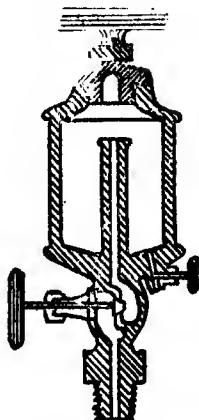

FIG. 49.—WATER DISPLACEMENT LUBRICATOR.
**Displacement Lubricators.**—The lubricators used on traction engines are manufactured in a number of different styles and of two distinct types. The types are known as the water displacement and the hydrostatic lubricators. The inside construction of one of the former is shown in Fig. 49. It will be noticed that a small pipe extends from the outlet at the bottom of the cup nearly to the top. The stem on the bottom of the cup screws into the steam pipe or into the steam chest direct and is